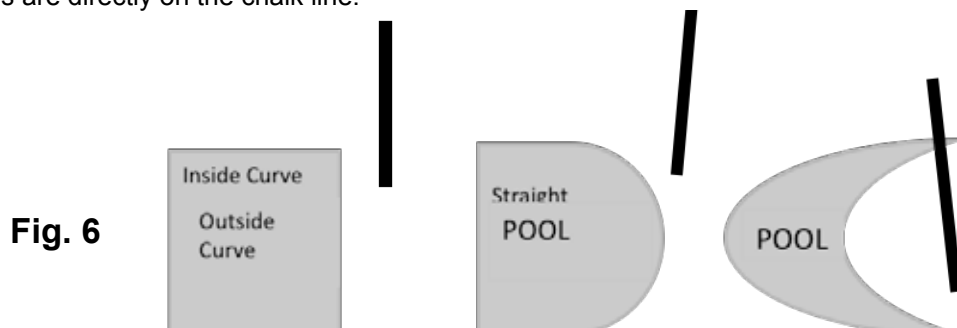

Fig. 6
- Holes on the inside curve of the pool should be angled 2° to 3° toward the pool. Very tight curves may require an angle of up to 4°. **See (Fig. 6) below.**